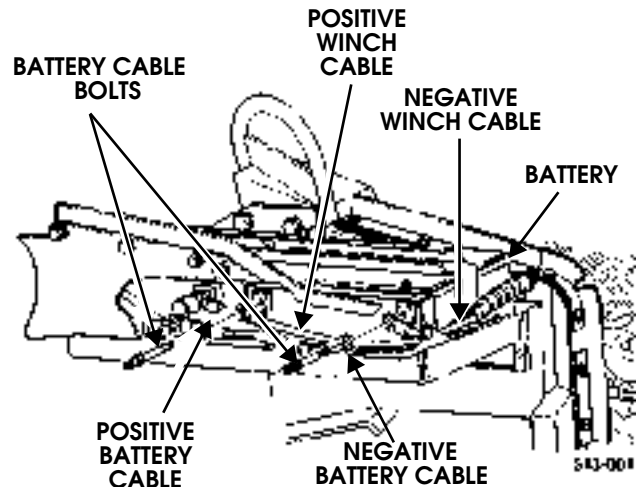

Figure 13-1: Winch Cables On Battery
2. Remove two battery cable bolts, battery cables, and winch cables from battery (Figure 13-1).